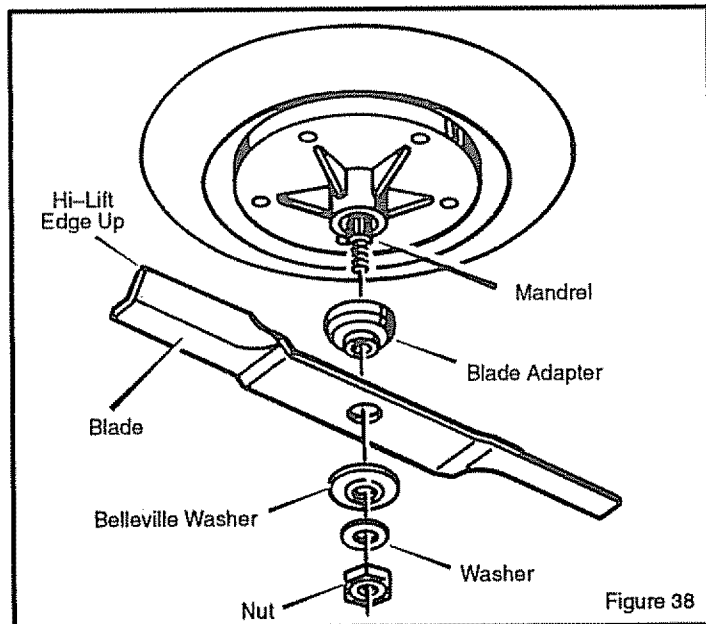

Figure 38
3. Remove the nut that holds the blade (Figure 38).
6. Mount the blade and blade adapter on the mandrel (Figure 38).